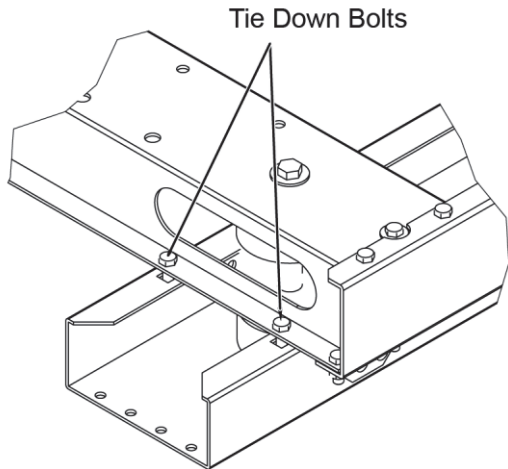

FIGURE 2 - FAN AND MOTOR ISOLATOR SUPPORT FRAME
6. Verify that the tie down bolts are removed from the four corners of the fan base assembly as shown in *Figure 2 on page 16*. For small AHUs, the tie down bolts may only be applied to three corners of the fan base since one corner is not accessible.